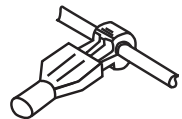

Figure 5
3. Slide wire W-5 End 1 (blue terminal) onto the wire tap and secure any loose wire with a wire tie. (Fig. 5)